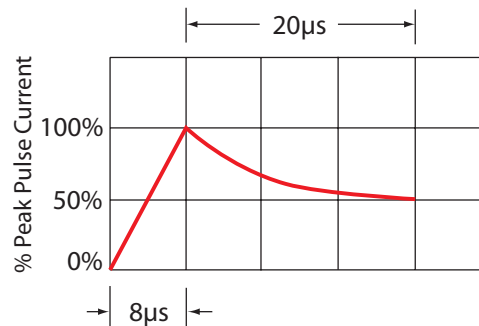

Figure 3. 8/20  $\mu$ s waveform
- The clamping voltage is the peak voltage across the MLV Family ESD suppressor at the peak current of an 8/20  $\mu$ s waveform with 1 A pulse current (see Figure 3).